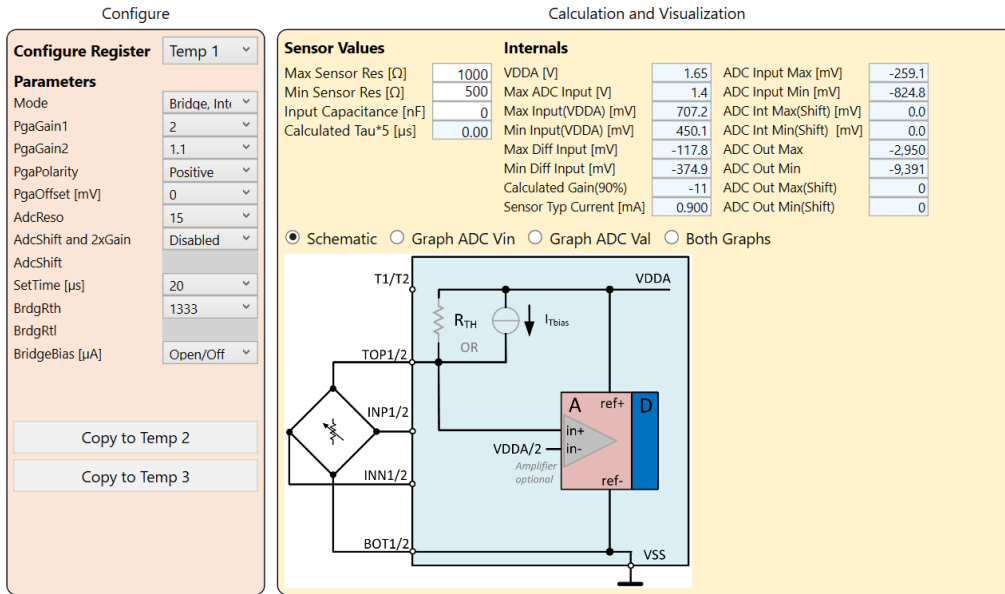

Figure 59. Mode Bridge Internal Bias
- Bridge, Internal Bias: The resistive bridge (used for the main measurement) is supplied by an internal voltage source or by an internal configurable current source tied to VDDA (Reference 3) (Figure 59).